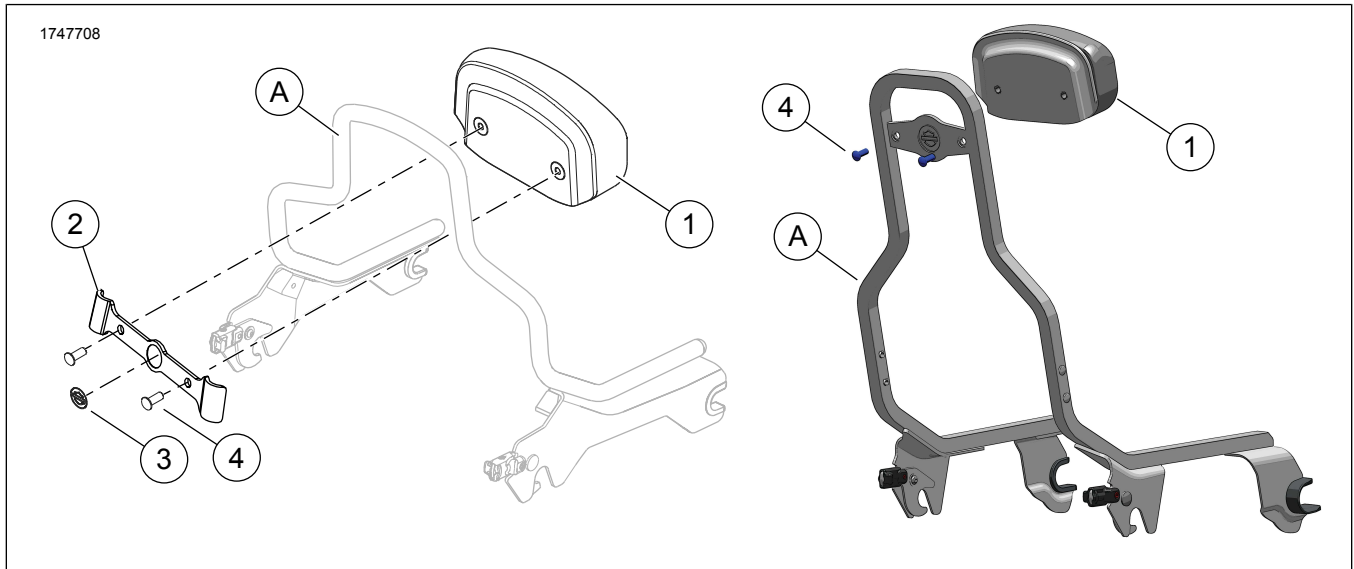

Figure 1. Kit Contents: Compact Backrest Pad Kit
1. Figure 1 Position backrest pad (1) so that contour in base aligns with top of OE sissy bar upright (A).
- Side of bracket (3) are not symmetrical. Width at top is narrower than width at bottom.
- Use a mixture of 50:50 isopropyl alcohol and water solution to thoroughly clean surface of OE upright (A) before installing bracket (2). Allow to dry completely. Install at room temperature. 10–32 °C (50–90 °F)
2. Remove adhesive backing from left and right sides of bracket (3).
3. Figure 1 Place mounting bracket against pad so that OE sissy bar upright (A) is between pad (1) and bracket (2).
4. Position and press bracket (2) firmly onto OE sissy bar upright (A).
5. Insert screws (4). Tighten.
1. Figure 1 Use a mixture of 50:50 isopropyl alcohol and water solution to thoroughly clean surface of OE sissy bar upright (A) before installing bracket (2). Allow to dry completely. Install at room temperature.
1. Figure 1 If necessary, cut plastic rain seal away from pre-cut screw holes in backrest pad (1) to prevent plastic from catching in the threads.
2. Position backrest pad (1) so that contour in base aligns with top OE of sissy bar upright (A).
- Figure 1 Use a mixture of 50:50 isopropyl alcohol and water solution to thoroughly clean surface of OE sissy bar upright (A) before installing bracket (2). Allow to dry completely. Install at room temperature. 10–32 °C (50–90 °F)
4. Figure 1 Place mounting bracket (2) against pad (1) so that OE sissy bar upright (A) is between pad and bracket.
5. Position and press bracket (2) firmly onto OE sissy bar upright (A).
6. Figure 1 Insert screws (4). Tighten.
1. Figure 1 Align pad (1) with bracket (2).
2. Install screws (4). Tighten.